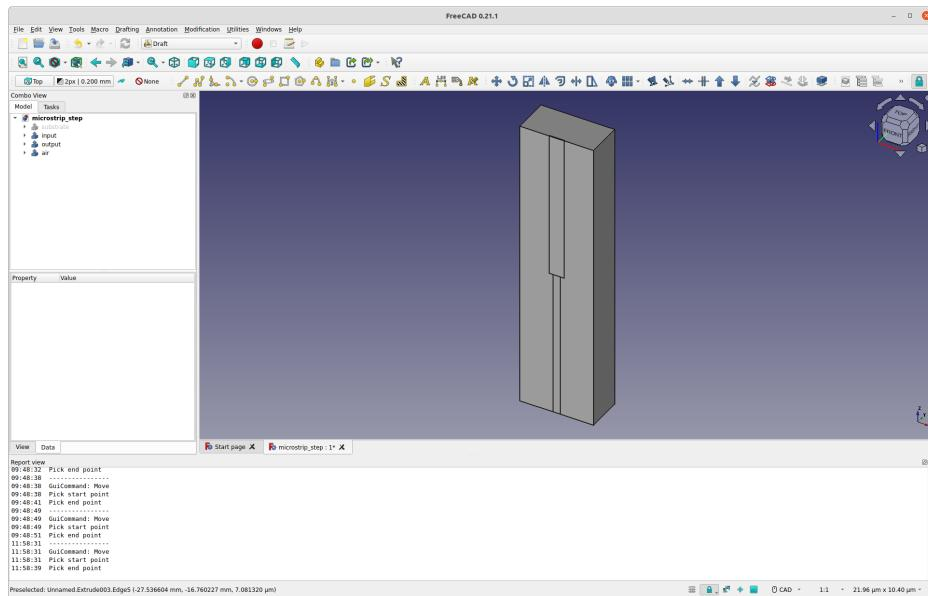

Figure 12: Screenshot of the 3D setup after extrusion and movement of one microstrip segment.
- Change back to the **Draft** workspace, then select **output** and move it 5  $\mu\text{m}$  so that the near end snaps to the far end of **input**. The two microstrip lines should be co-linear and end-to-end, as shown in Fig. 12.